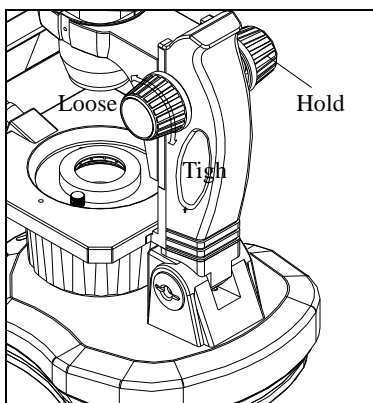

Figure 3
- (1) Hold one knob to turn another to achieve adjustment of tightness. Tightness is base on turn direction. (Fig. 3)
- (2) Adjust the tightness to suitable to make observation more comfortable and prevent stage slipping down.